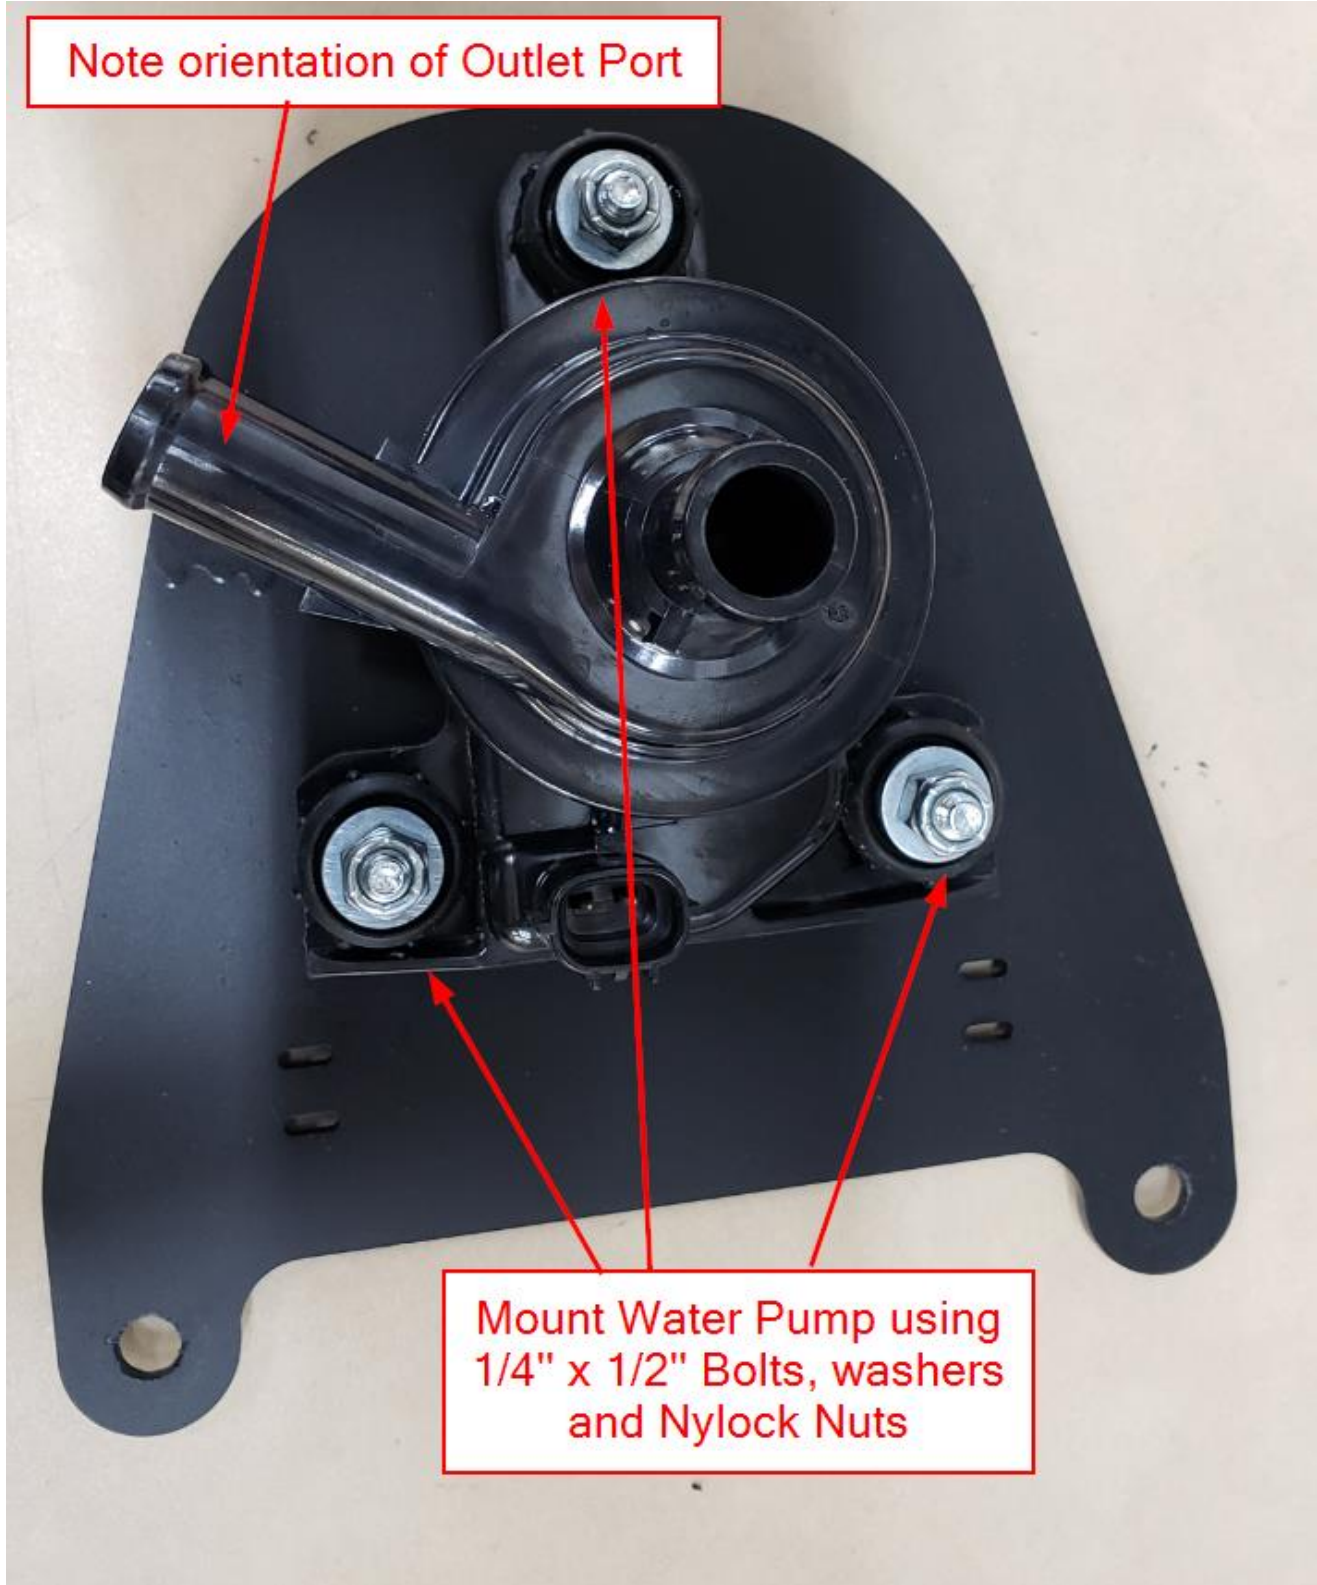

Figure 30
- c. Remove the Silver bracket from the Water Pump and throw the bracket away. Attach the included Water Pump Mounting Bracket to the Pump as shown in Figure 30, using the three ¼"-20 x 1 ½" Serrated Flange Bolts, ¼" Flat Washers and ¼" Nylock Nuts.